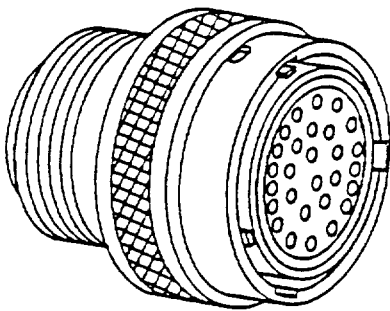

Figure 12. Typical Push-Pull Coupling
19. **Push-Pull.** The push-pull coupling system (Figure 12) employs a coupling ring that slides along the axis of the connector.